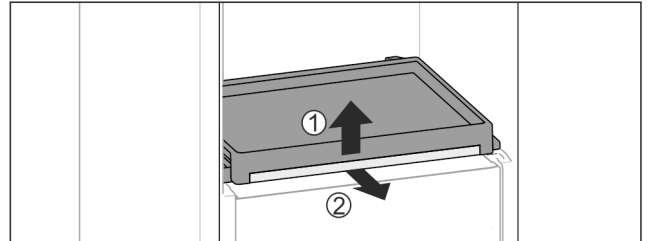

Fig. 113
- ▶ To remove the pull-out board with glass panel: Gently lift the glass panel at the front Fig. 113 (1) and pull out to the front Fig. 113 (2).